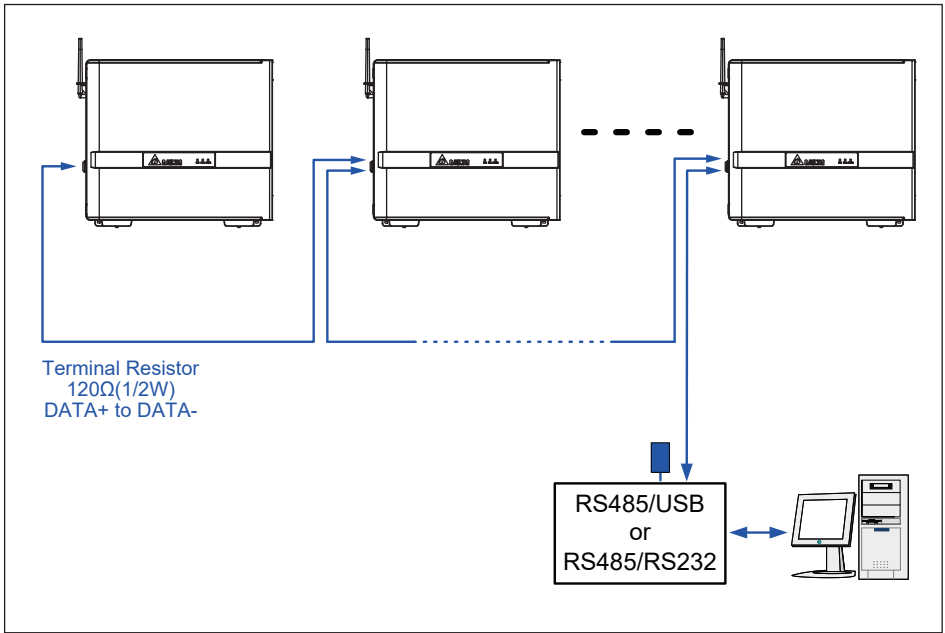

Figure 3-24: Multiinverter connection illustration
A 120ohm bus termination resistor and associated control switch are located on the communication board (**Figure 3-24**). **Table 3-2** shows the switch function. Different RS-485 connection scenarios require different set up for the 120ohm bus termination resistor.
- When several inverters are cascaded (i.e., "daisy-chained") only the last inverter in the chain must have its bus termination resistor switched ON (**Figure 3-24**).